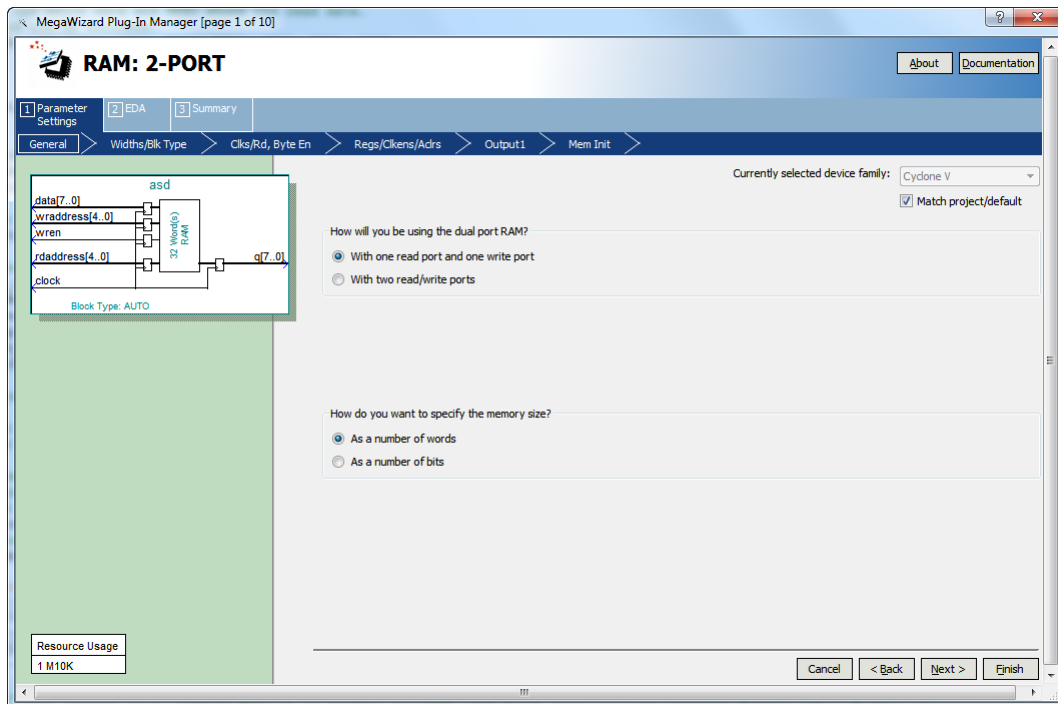

Figure 5: Configuring the two input ports of the RAM.
1. Create a new Quartus project for your circuit. To generate the desired memory module open the IP Catalog and select the *RAM: 2-PORT* module in the Basic Functions > On Chip Memory category. As shown in Figure 5, choose With one read port and one write port in the category called How will you be using the dual port ram?